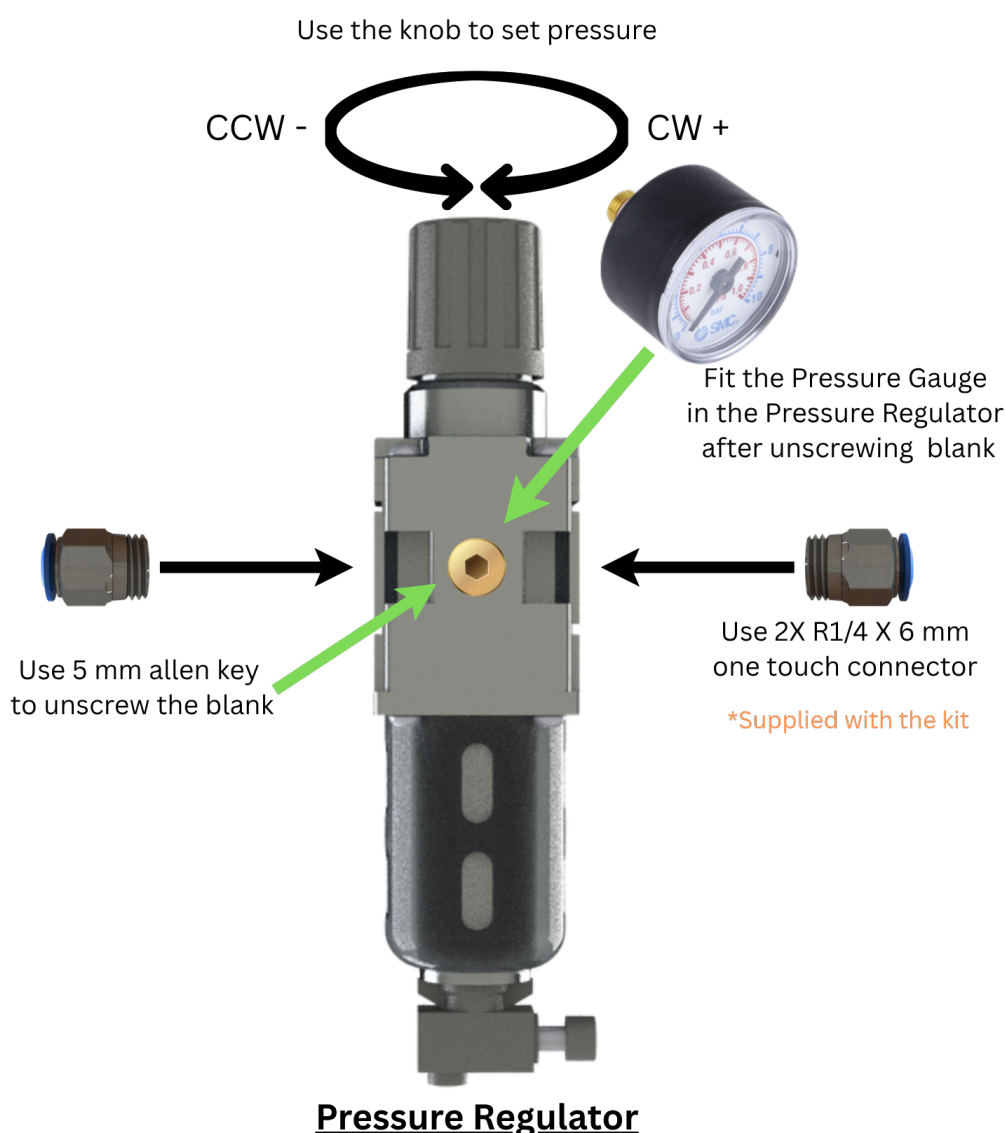

Figure 7: Assembly instructions for the Accessory kit
Step 1: Use R1/4 X 6 mm one touch connectors available off the shelf for connecting 6 mm PU tube to the inlet and outlet of the pressure regulator(refer to Figure 7)